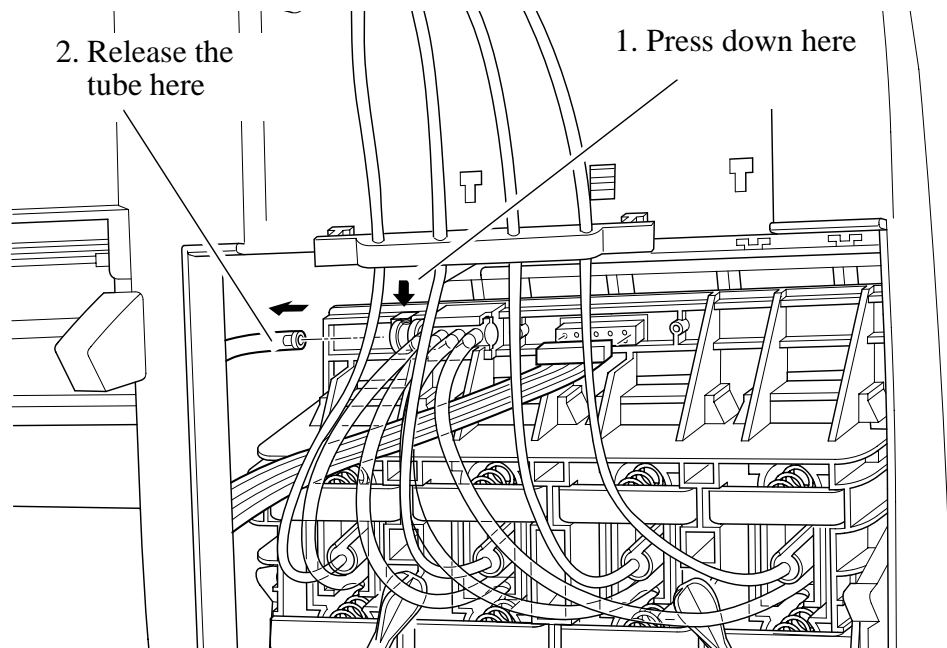

Figure 61: Air Tube
12. Disconnect the air tube (refer to Figure 61).